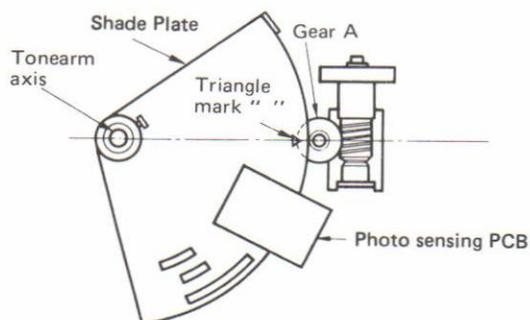

Fig. 11
3. With the tonearm in the arm rest, align the triangular mark on the shade plate with the center of gear A, and then secure into position. (Fig. 11).